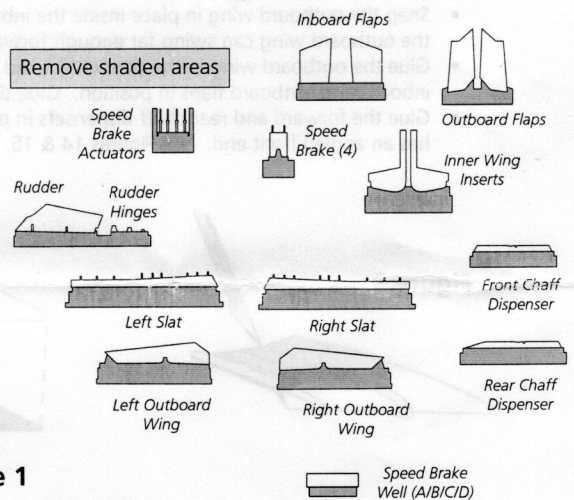

Figure 1
- Glue the fin halves together. Cut the rudder away, including the rudder hinges. See Figure 1.